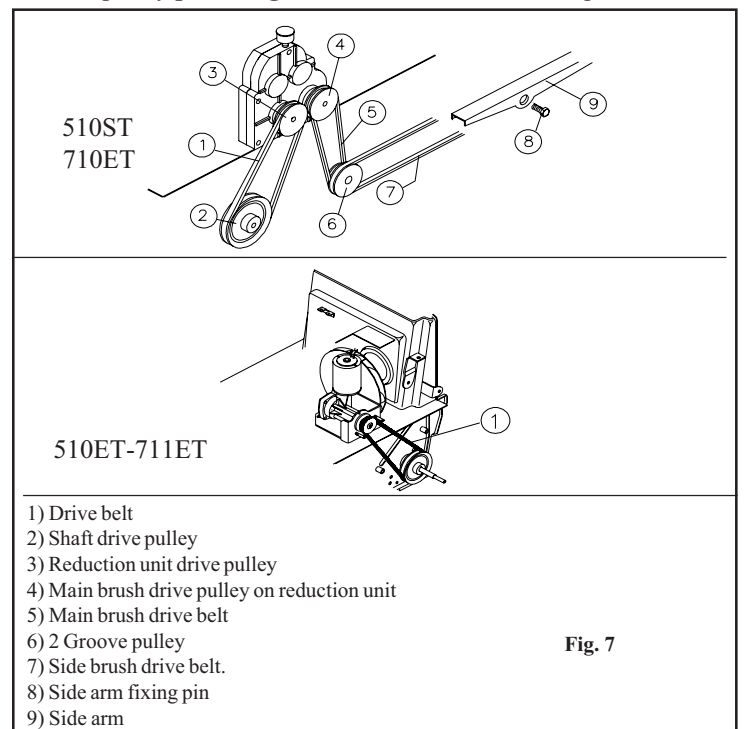

Fig. 7
- Remove belt **pos. 7 Fig. 7** from the groove of pulley **pos. 6 Fig. 7**.
- Remove belt **pos. 5 Fig. 7** from the groove of pulleys **pos. 4 Fig. 7** and **pos. 6 Fig. 7**.
- Position belt **pos. 7 Fig. 7** on pulley **pos. 6 Fig. 7**.
- Remove belt **pos. 7 Fig. 7** from pulley **pos. 6 Fig. 7**.
- Loosen fixing pin **pos. 8 Fig. 7** and let the hooks of side arm **pos. 9 Fig. 7** come out of the idle toothed ring.
- Remove belt **pos. 7 Fig. 7** from side arm **pos. 9 Fig. 7**.
- Hook side arm **pos. 9 Fig. 7** to the idle toothed ring.
- Tighten pin **pos. 8 Fig. 7**.
- Place belt **pos. 7 Fig. 7** on pulley **pos. 6 Fig. 7**.
- Loosen the pulley **pos. 4 Fig. 7** fixing screw and take it out of the reduction unit shaft, paying attention not to lose the key.
- Unscrew the pulley **pos. 3 Fig. 7** fixing screw and take it out of the reduction unit shaft, paying attention not to lose the key.
- Remove belt **pos. 1 Fig. 7**.
- Place the new belt on pulley **pos. 2 Fig. 7**.
- Mount pulley **pos. 3 Fig. 7** on the reduction unit along with the belt.